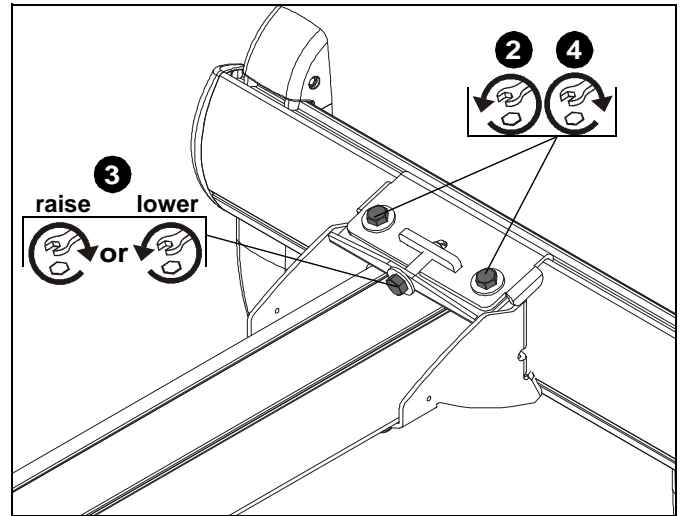

Figure 38
2. Loosen two bolts on either side of pitch adjustment screw. (See Figure 38)
3. Adjust pitch adjustment screw until mount is at desired pitch level. Turn clockwise to raise mounting level or turn counterclockwise to lower mounting level. (See Figure 38)
4. Tighten two bolts on either side of pitch adjustment screw. (See Figure 38)